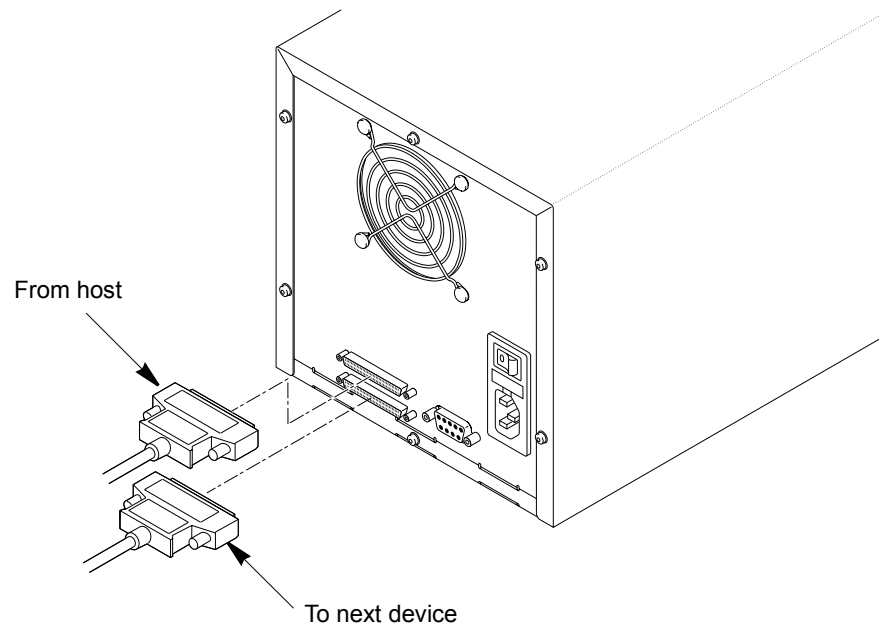

Figure 2-7 Connecting the autoloader to the SCSI bus (autoloader does not terminate the bus)
4. If the autoloader is not the last device on the bus, connect a SCSI cable from the unused SCSI connector to the next device on the bus, as shown in Figure 2-7.